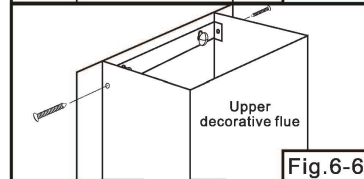

Fig.6-6
14. Install the upper decorative flue to mounting bracket using 2 screws. (Fig.6-6)